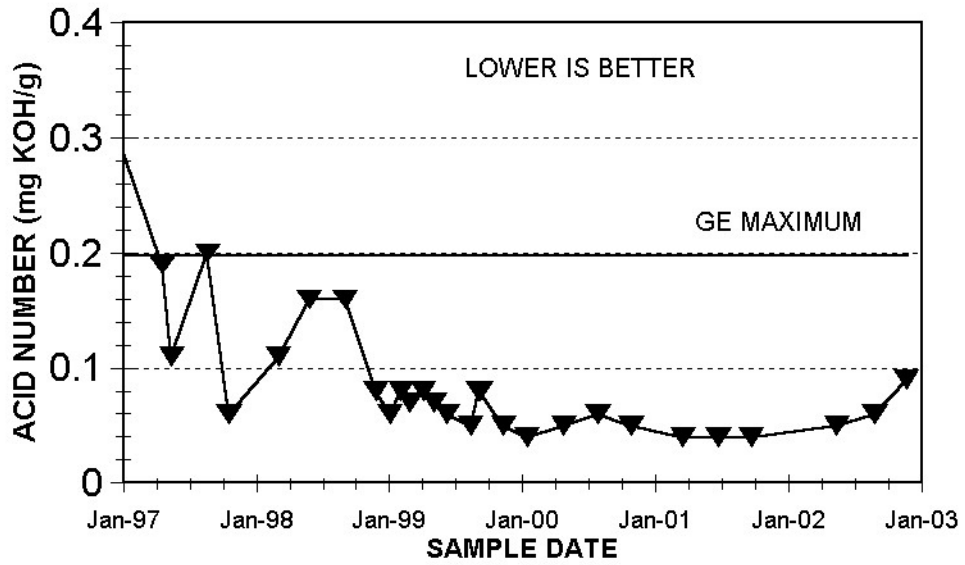

Figure 1: Acid Number.
**Acid Number:** Currently low which is good and averaging about 0.05 mgKOH/g over this year it is well below the GE limit of 0.20 mgKOH/g. This indicates that the purification media is being effective. See Figure 1. While not shown the metal content of the fluid has dropped as well and the magnesium content in particular is down from over 20 to 2 ppm.